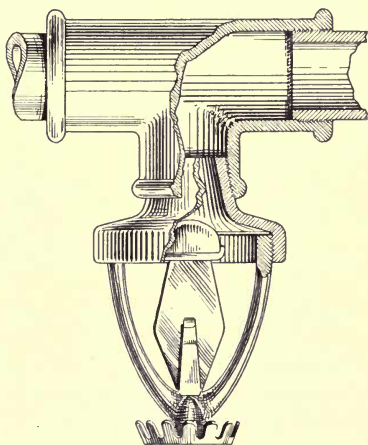

FIG. 57. — A sprinkler head.
**Use of alloys in sprinkler heads.** Many of the metals when melted mix with each other to form solutions known as alloys. An alloy is usually more fusible than the metals that compose it. Thus Wood's metal is made up of tin and cadmium, each one part, lead two parts, and bismuth four parts. It melts at  $165^{\circ}$  F., which is lower than the melting point of any of its constituents. This low melting point of the alloy is made use of in *sprinkler heads* (Fig. 57). Many factories and stores are now protected against fire by covering the ceilings